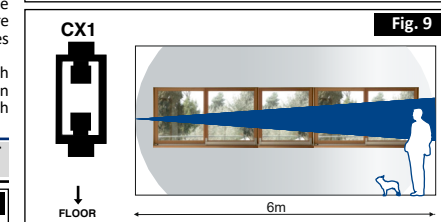

Fig. 9
- WINDOW/SHUTTER (Fig. 9 / 12 / 13): this mode is suitable for installations to protect windows between the roller shutter / window.